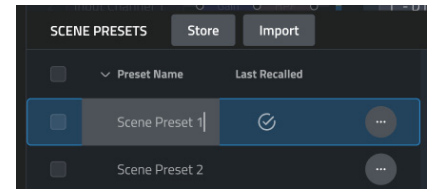

Figure 43: Renaming Preset
- 2) You will be able to rename the Scene as shown in **Figure 43**.